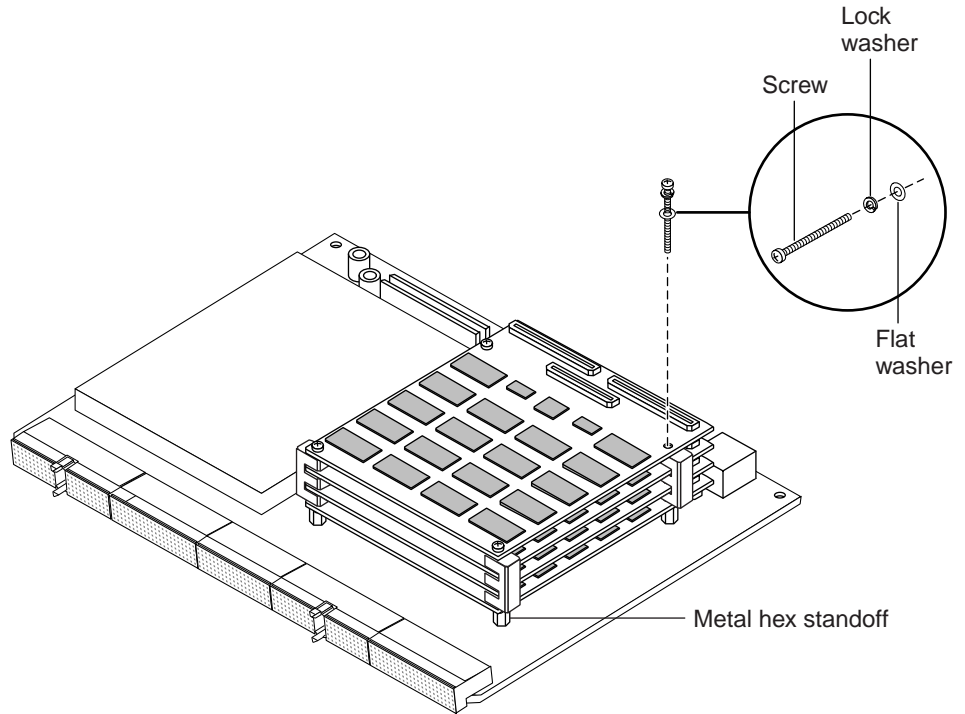

FIGURE A-14 Dropping the Screws into the Aligned Mounting Holes
- 9. Insert each screw into one lock washer and one flat washer, then drop the screws (with the washers) into the aligned mounting holes of the memory boards and the plastic spacers (see FIGURE A-14).**
- 10. Using your fingers, turn all four screws until they take up just the first one or two threads in the metal hex standoffs (see FIGURE A-14).**